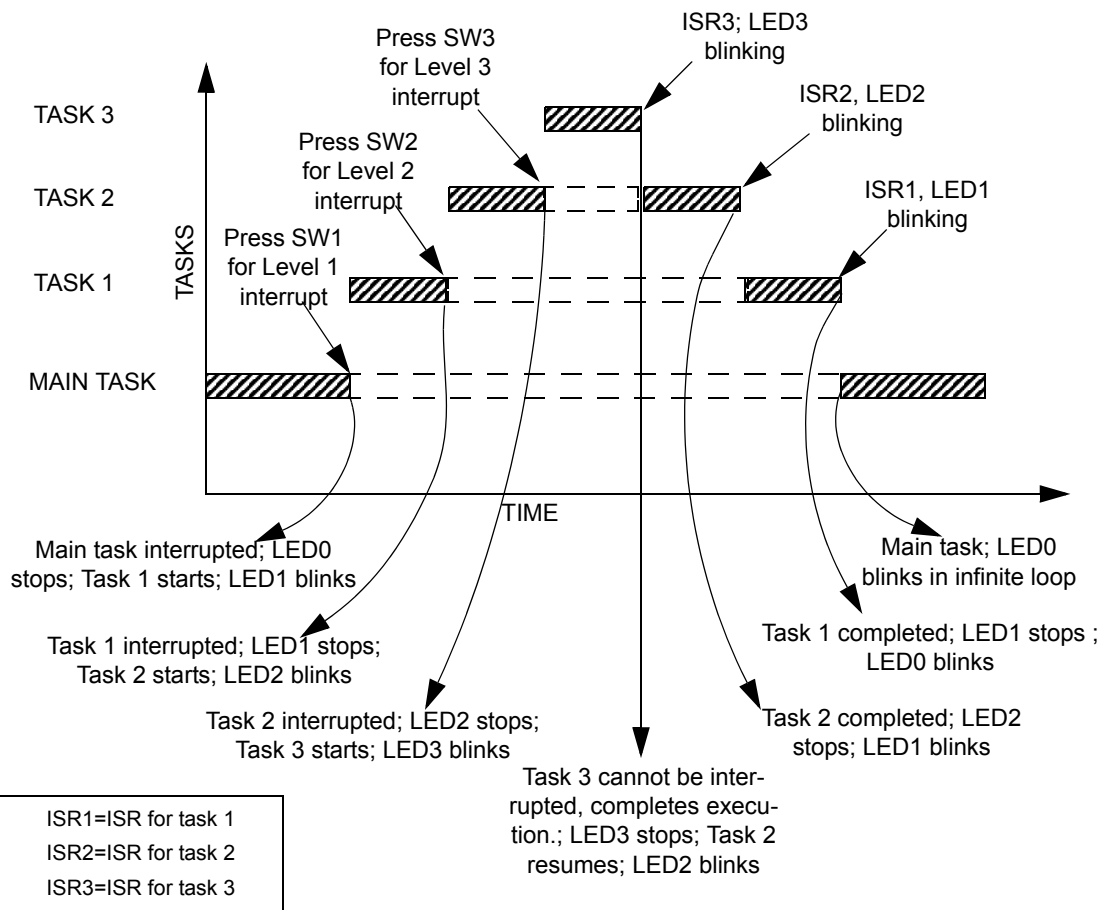

Figure 2. Graphical Representation of the Nesting Interrupts Demo
3. While LED0 continues to blink, simulate an interrupt by pressing switch SW1 (see Figure 2 on page 7). Observe that the LED0 stops blink-
After a brief delay, LED3 stops blinking, indicating that ISR3 has completed executing and the program has jumped to ISR2, which causes LED2 to resume blinking. After a brief delay, LED2 stops blinking, indicating that ISR2 has completed execution. The program jumps to ISR1, and LED1 resumes blinking. LED1 stops blinking after a brief delay, and LED0 starts blinking, indicating that the program has jumped back to `main()`. Figure 2 on page 7 graphically displays this demonstration.